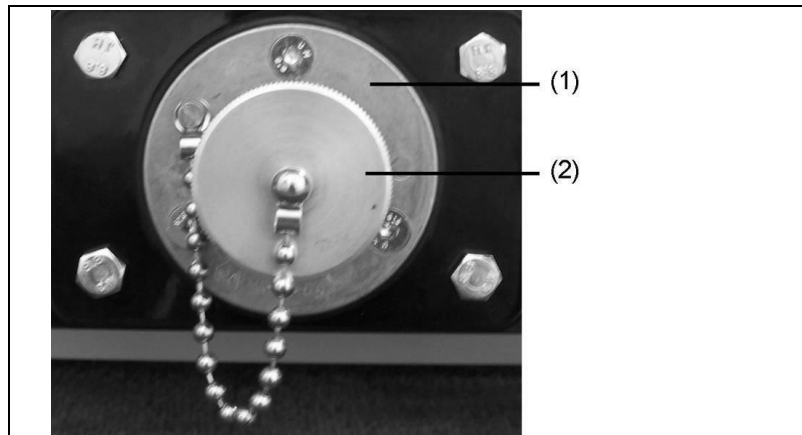

Fig. 5-10: Connection socket for a 12V accessory
1. Unscrew protective cap (Fig. 5-10-(2)) of the 12V connection socket (Fig. 5-10-(1)) anti-clockwise.
6. Screw on protective cap (Fig. 5-10-(2)) of the 12V connection socket by turning clockwise.